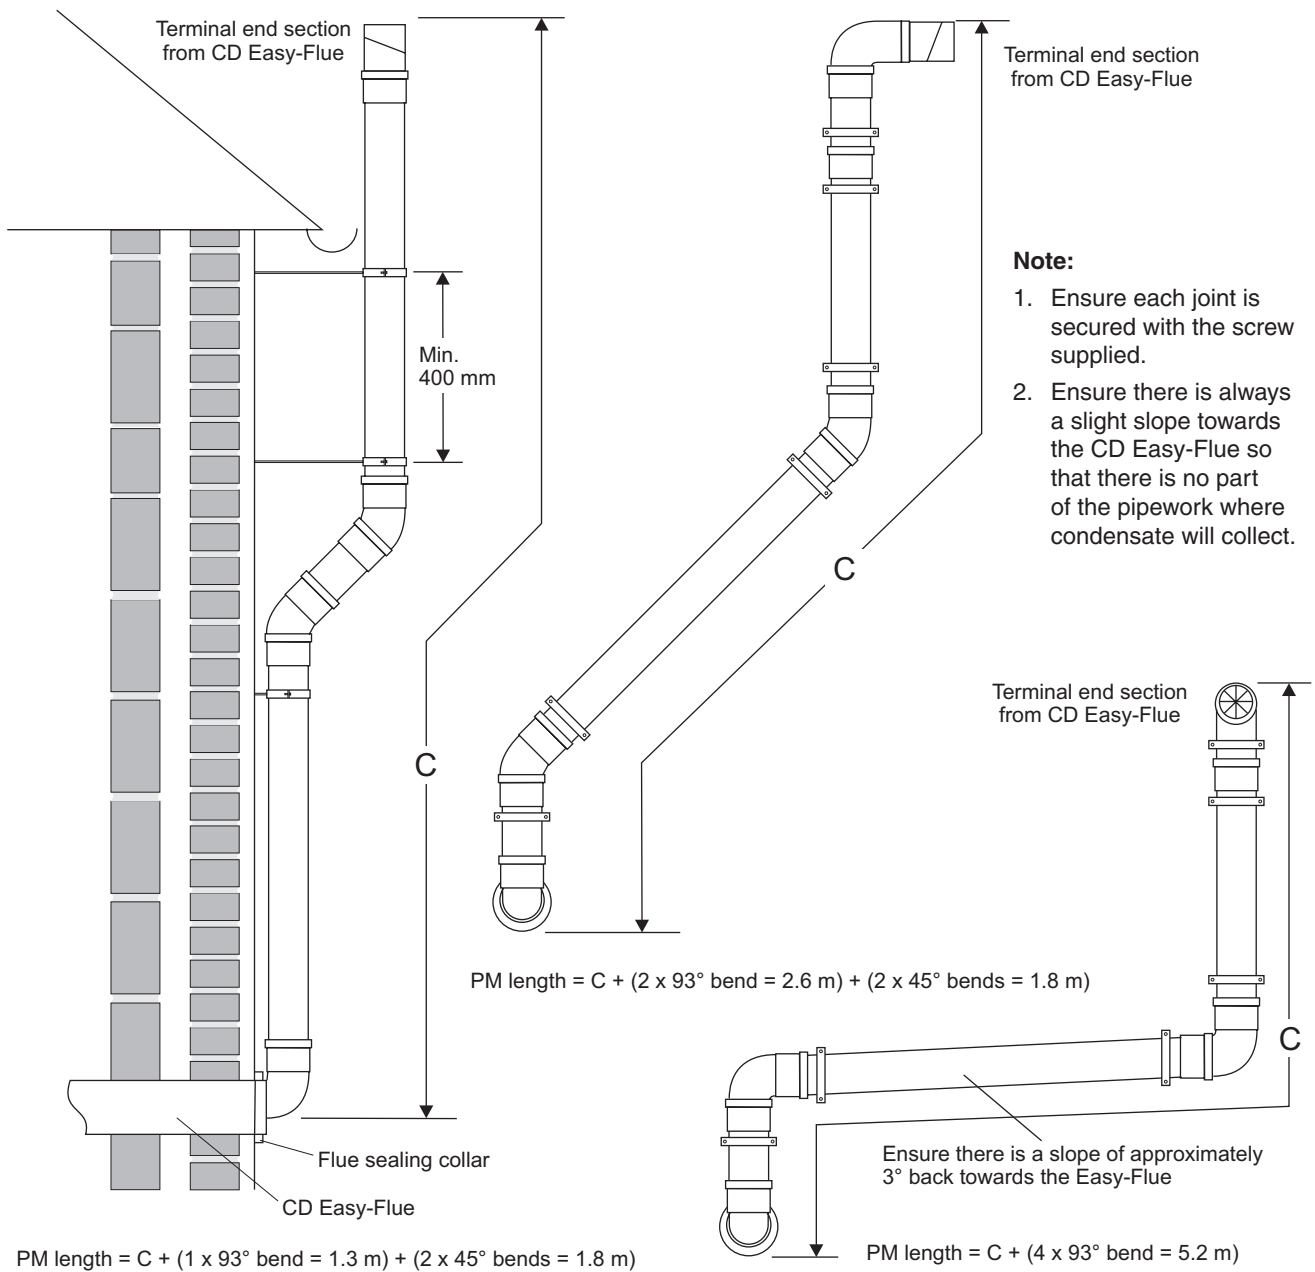

Fig. 4.14
- iii. Connect to the 93° bend the required Plume Management components as detailed and refer to Fig. 4.14.
- iv. Terminate the Plume Management pipework by fitting the terminal end section (push-fit) previously removed. Refer to Fig. 4.14.